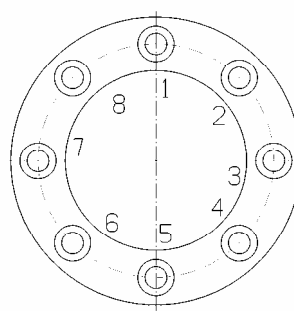

Figure 2
7. Check again if the torque of the screws is equal to the torque shown in the table by executing 2.5 revolutions clockwise (see figure 2).